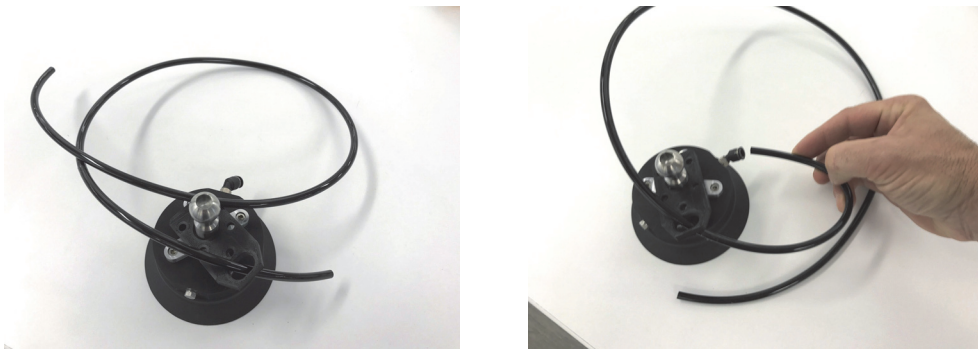

Figure 2-8 Feeding the tube through the opening (*left*) to the fitting (*right*)
3. Feed the longest air tube through the opening on the new mounting pod, and then connect it to the fitting (see Figure 2-8 on page 32).